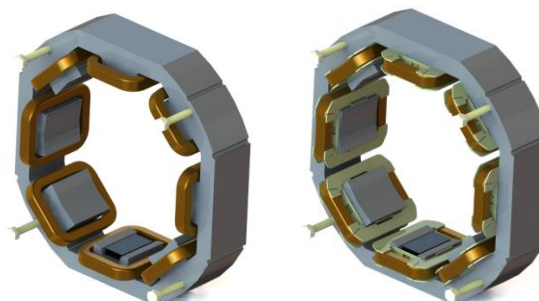

Figure 13.3: Exciter stator GTA / AG10
3. Remove the 4 fixing screws of the exciter stator according to Figure 13.3.